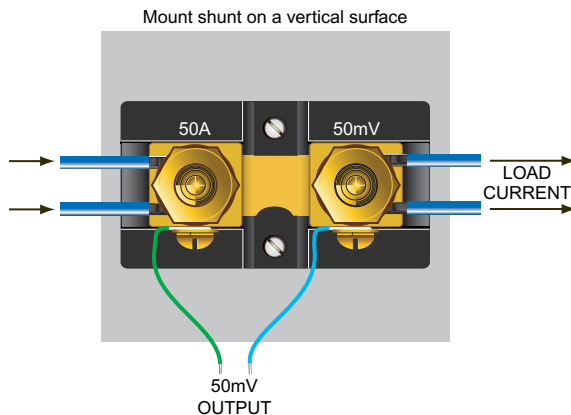

Figure 1. Typical installation
- Mounting Considerations:** All shunts should be mounted with their resistance blades in a vertical position to allow for natural convection cooling (see Figure 1). Forced-air cooling must be provided when vertical mounting is impractical, or in installations where the shunt is installed in a confined location. The shunt's manganin blades must never be allowed to exceed $+125^\circ\text{C}$; doing so will cause permanent damage to the shunt.
Whenever practical, all shunts should be connected in the grounded side (normally the 'chassis') of the dc supply. However, these shunts must be connected in the grounded side of the circuit when the dc supply exceeds 750 volts (the rated limit for the shunt's phenolic insulating base). When more than one wire is to be connected to each end of a shunt, the wires must be evenly distributed between both terminals (see Figure 1).